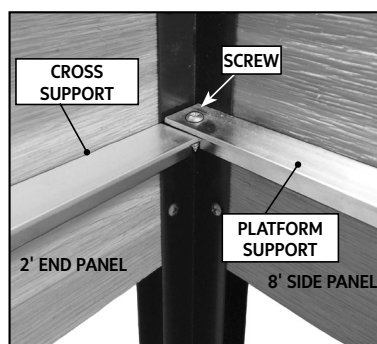

Figure 2
7. Use a rubber mallet to tap a pre-assembled 2' END PANEL into the open channel of a CORNER, positioning it so the CROSS SUPPORT sits under the PLATFORM SUPPORT on the 8' side panel (Fig. 2) and screw holes align. Ensure END PANEL is fully seated and  $\frac{1}{8}$ " above the top of the CORNER, then secure with PHILLIPS SCREWS as shown. Repeat to attach the remaining 2' END PANEL to the other end.